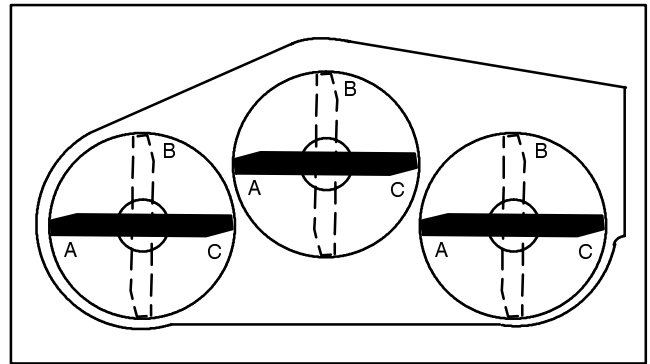
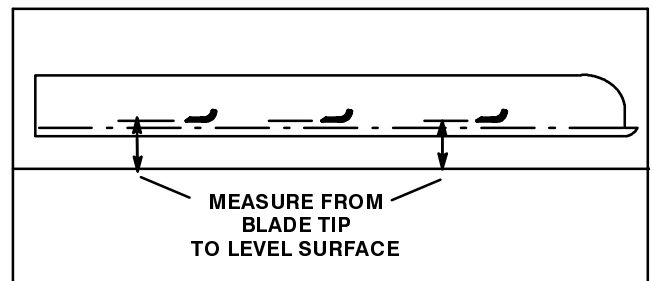

Figure 34
Figure 35
CORRECTING CUTTING UNIT MISMATCH (Fig. 34–35)
5. Position all three blades in the “A” position (Fig. 34) and measure from level surface to the bottom of the tip end of each blade (Fig. 35).
6. Note measurement attained at “A”, rotate blades to “B” position (Fig. 34), measure distance of all blades to level surface and note dimensions (Fig. 35).
7. Rotate blades to “C” position, measure and note distance measured (Fig. 34, 35).